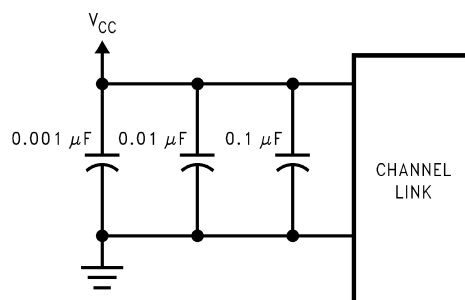

Figure 23. CHANNEL LINK Decoupling Configuration
**DECOUPLING CAPACITORS:** Bypassing capacitors are needed to reduce the impact of switching noise which could limit performance. For a conservative approach three parallel-connected decoupling capacitors (Multi-Layered Ceramic type in surface mount form factor) between each  $V_{CC}$  and the ground plane(s) are recommended. The three capacitor values are 0.1 μF, 0.01 μF and 0.001 μF. An example is shown in Figure 23. The designer should employ wide traces for power and ground and ensure each capacitor has its own via to the ground plane. If board space is limiting the number of bypass capacitors, the PLL  $V_{CC}$  should receive the most filtering/bypassing. Next would be the LVDS  $V_{CC}$  pins and finally the logic  $V_{CC}$  pins.